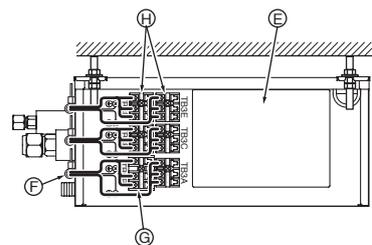

Fig. 15
- 4) Fix each wire in place with a wiring clamp. (Fig. 15)
- 5) Firmly connect each wire to the appropriate terminal block. (Fig. 15)